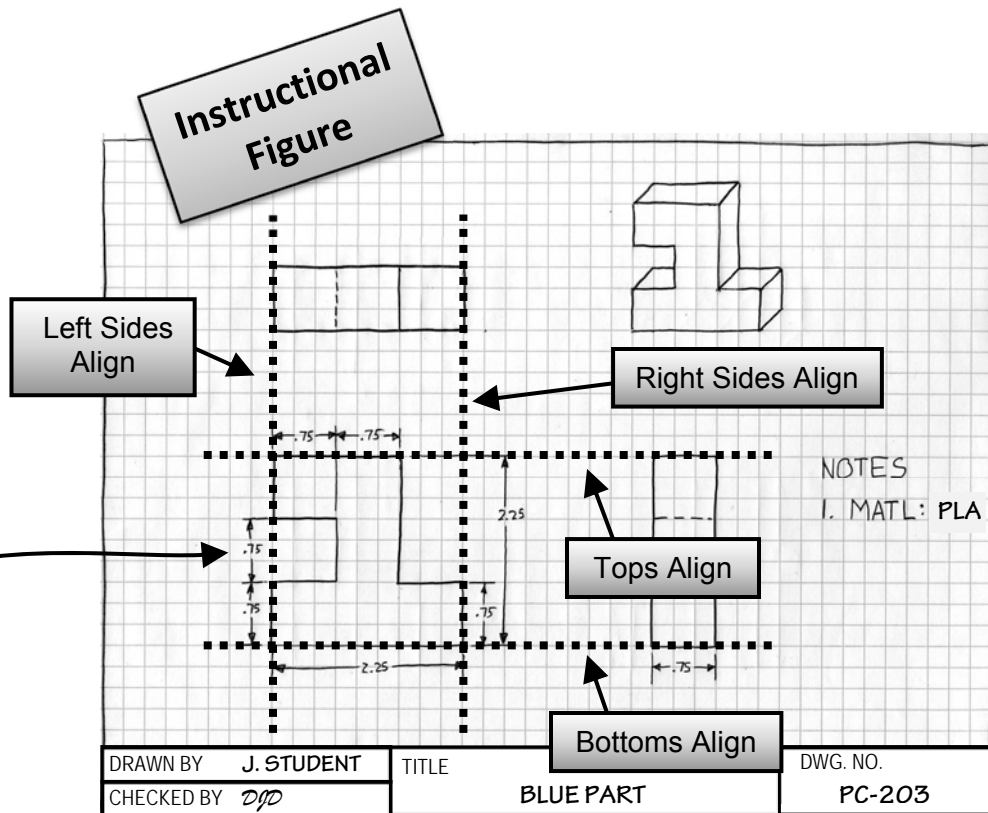

Figure 5 Alignment of the three orthogonal views and dimensioning hints.
- **Align** the views as illustrated in **Figure 5**. The tops and bottoms of the **front** and **right views** should align, the lefts and rights of the **front** and **top views** should align.
- Draw dimensions from a single origin and set of baselines, as discussed in **Figure 5** (i.e., on the **front**, dimension horizontal lengths from the left, vertical lengths from the bottom).